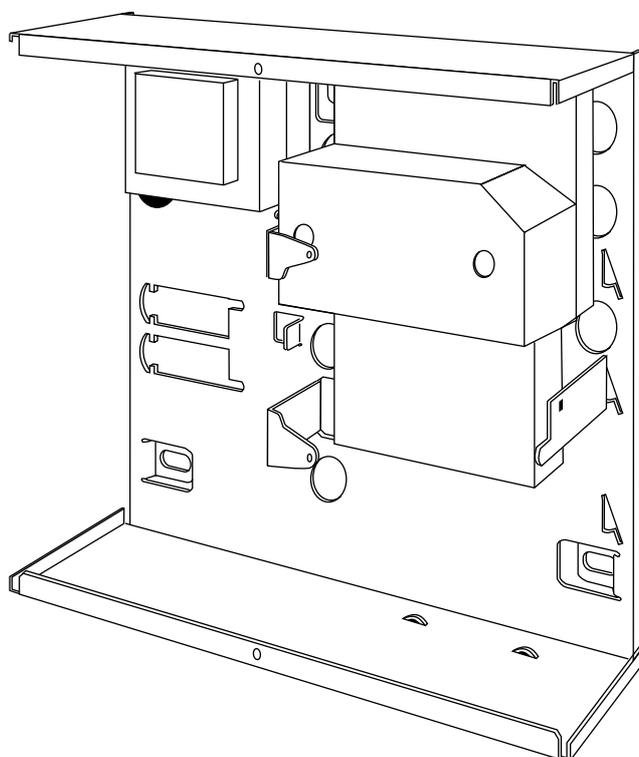

Figure 31. Fitting a Plug-by Communicator (9751)
- b) Fit the communicator between the PCB support pillars, making sure that the main PCB can fit back into position (see Figure 31).